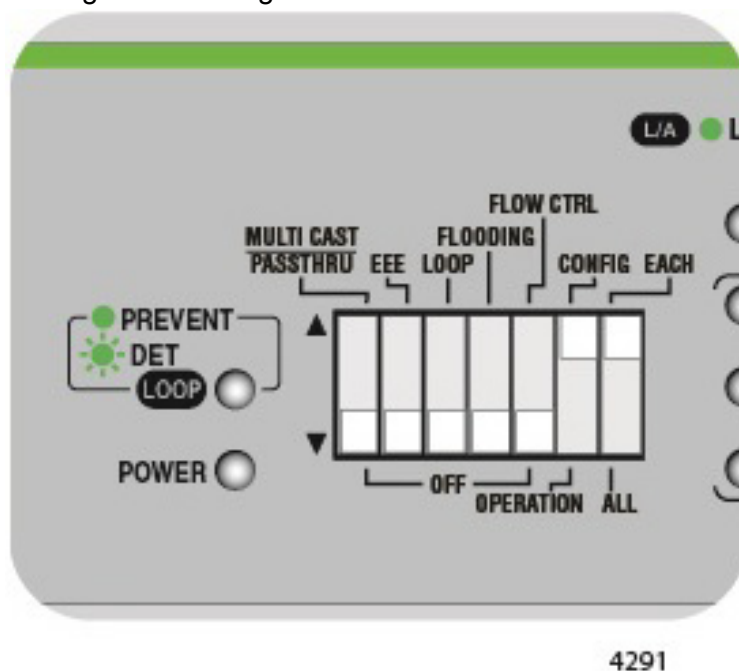

Figure 44. DIP Switch Settings for Individual Port Configuration
2. Set DIP switch # 7 (ALL/EACH) to the UP (EACH) position. The SPD/LOOP LED begins to flash for Port # 1 indicating that this port is ready to be configured. See Figure 44.